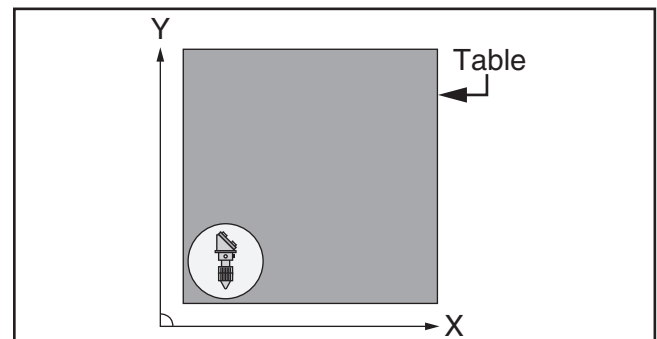

Figure 129. Laser head assembly in lower left corner of table.
14. Move laser head assembly to lower left corner of table (see **Figure 129**).